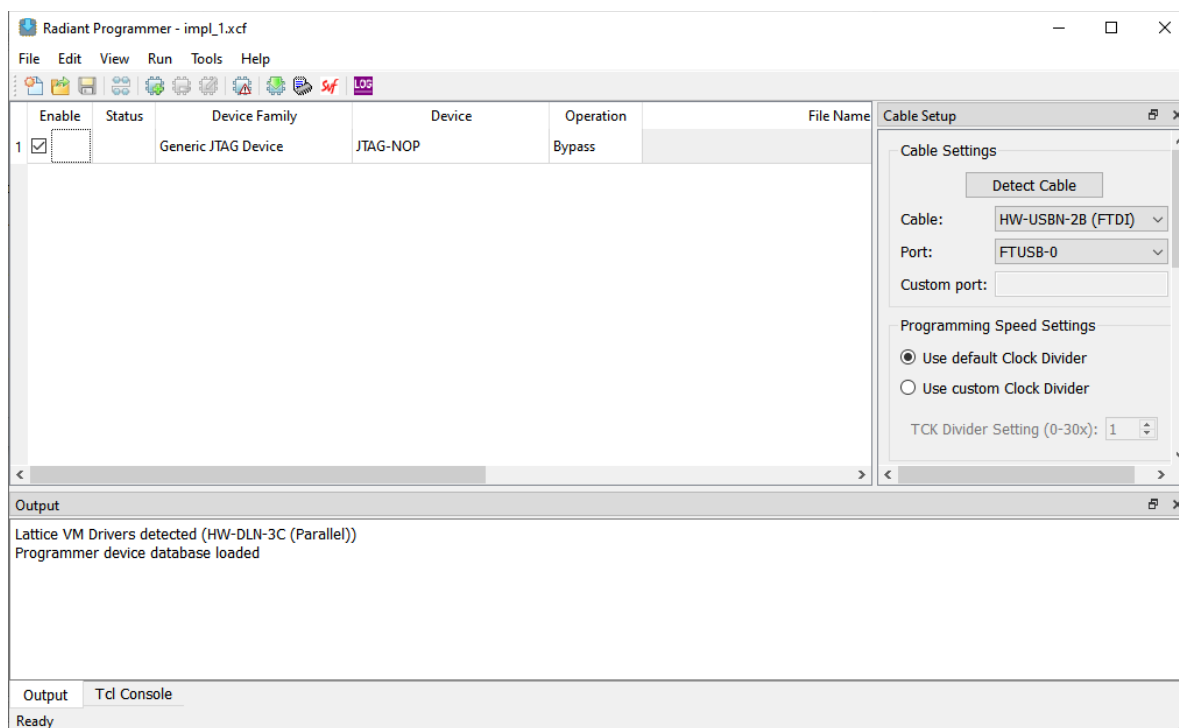

Figure 11.2. Radiant Programmer – Initial Window
3. After the Radiant Programmer interface opens (Figure 11.2), power up the MachXO5-55TD Evaluation Board by correctly positioning the power switch **SW6**.